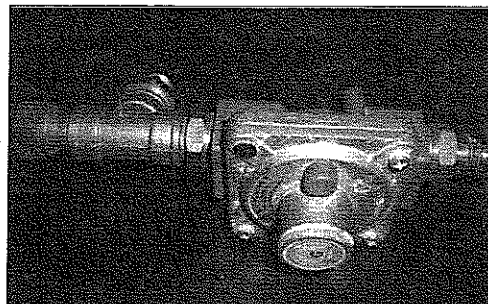

Fig 19
27. Attach NG Connector 5/8" UNF x 3/8" NPT, the tee fitting, the Connector 3/8" NPT x 5/8" UNF and the NG regulator together as shown. Tighten with pipe sealant and wrench. (See Fig. 19)